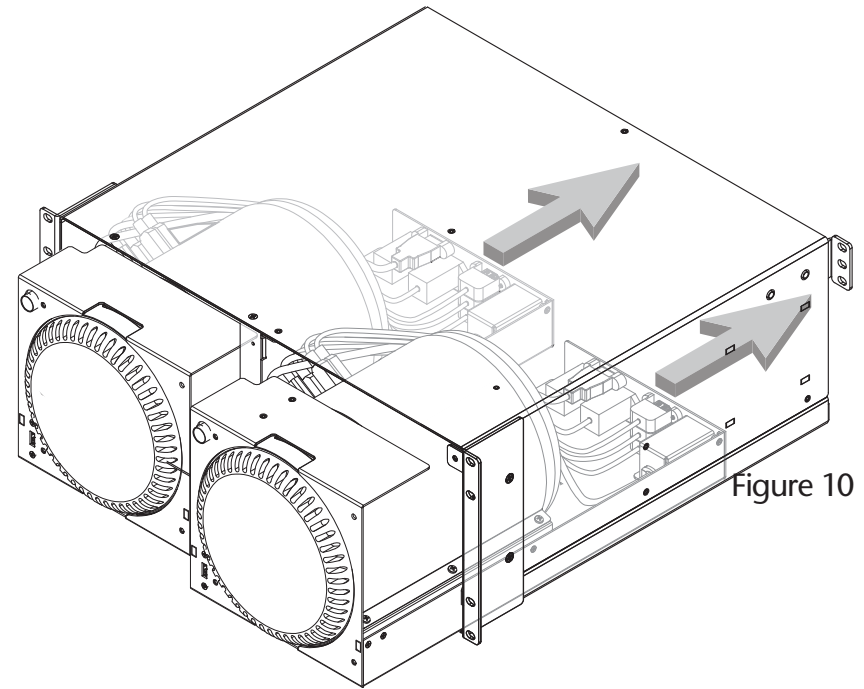

Figure 10
1. Carefully slide the computer mounting modules one at a time into the RackMac Pro's rackmount enclosure until they stop (**Figure 10**).